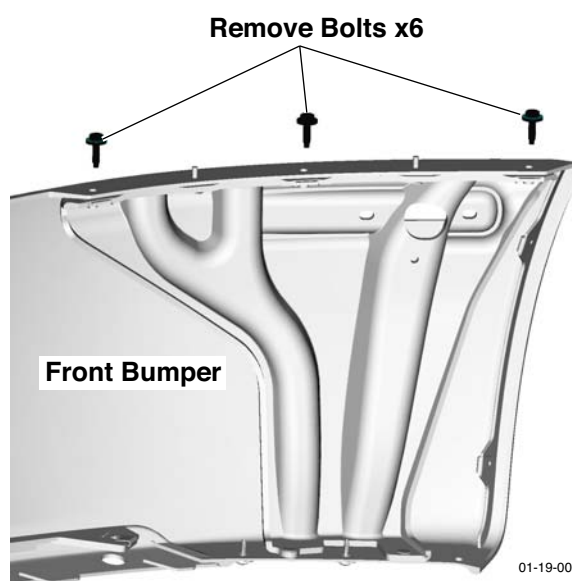

Figure 2
9. Remove bolts (x6) securing bumper to front wing (see Figure 2).